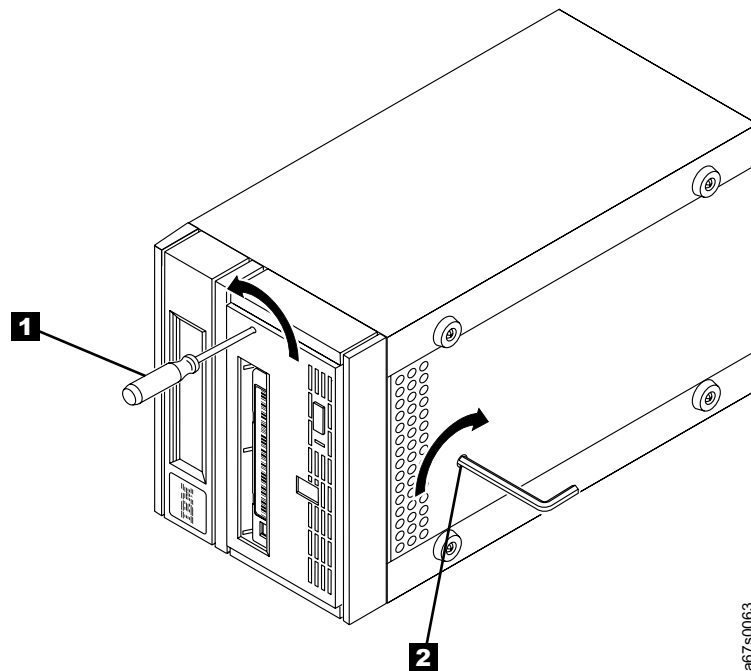

Figure 18. Moving the Leader Pin Block into the Cartridge. When the leader pin block reaches the cartridge, it disengages the leader pin.
8. Insert a small-blade screwdriver or pot-setting tool into the access hole for the loader motor gear (see **1** in Figure 18).